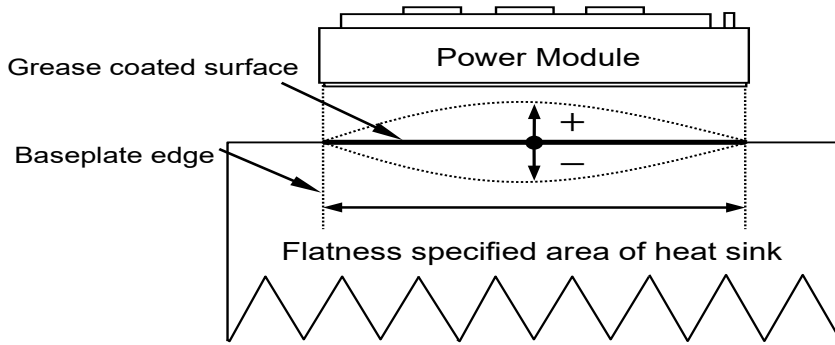

Fig. 6-3: Flatness of the heatsink
2. The flatness of the heatsink should be $-50 \mu\text{m} \sim +50 \mu\text{m}$ (for a length of 100 mm) on the module mounting surface (see Fig. 6-3). Also, the surface roughness should be within $10 \mu\text{m}$ for a length of 100 mm. Sufficient flatness must be provided on the surface of the heatsink. Excessive minus (concave) flatness will increase the contact thermal resistance $R_{th(C-S)}$ and affect the heat dissipation of the module. Excessive plus (convex) flatness may cause stress to be applied to the inside of the module during installation, which may cause damage to the module.